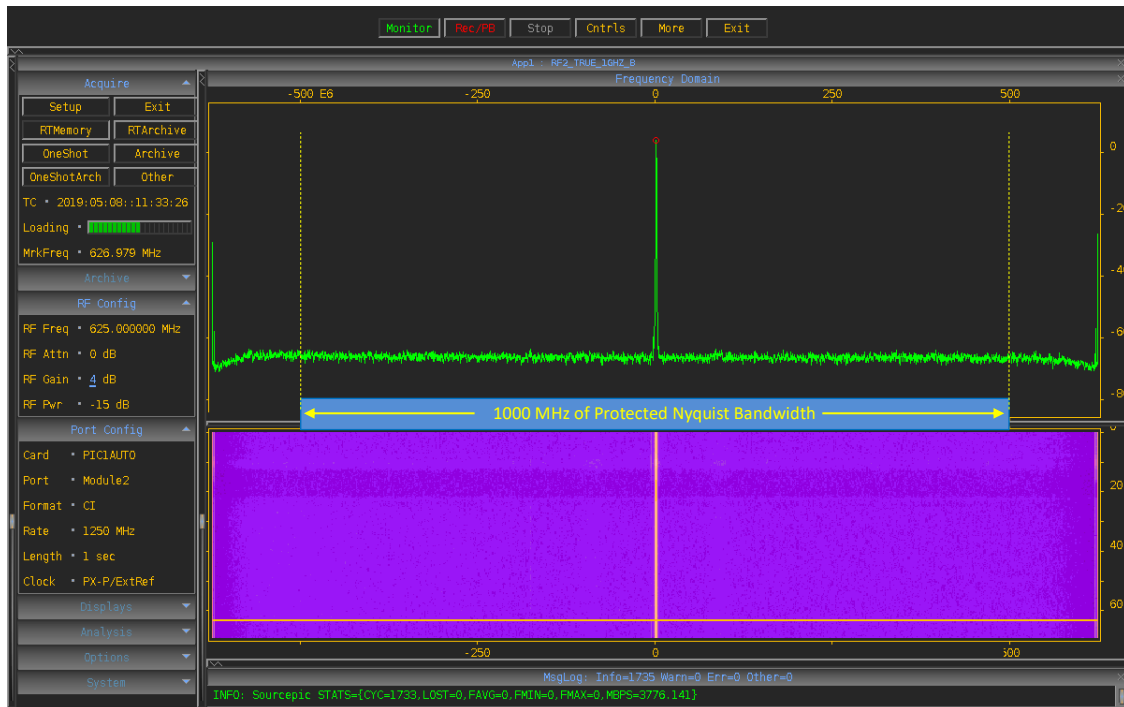

Figure 3 - Typical >70dB Spurious Free Dynamic Range (SFDR) in 1GHz of protected Nyquist bandwidth
- ◆ SFDR at max sample rate is >70 dB (See Figures 3,4,5)